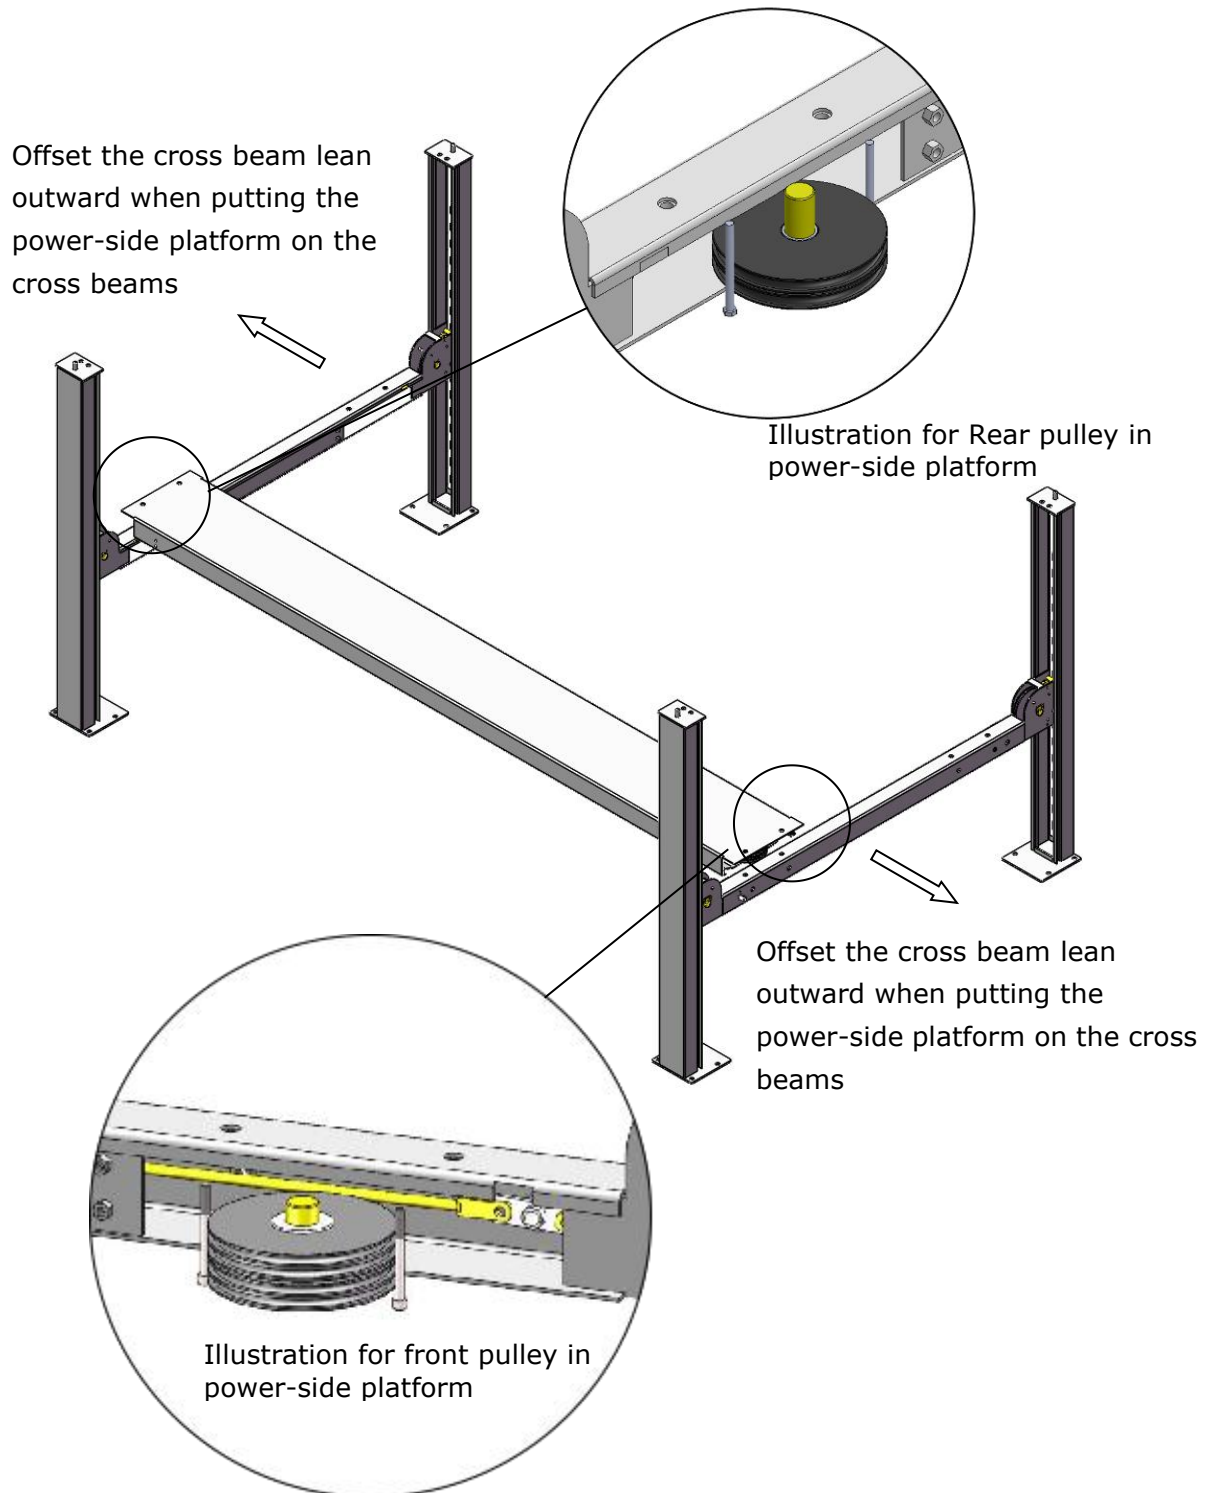

Fig. 17
1. Install the power side platform on the cross beams by a fork lift or manual, offset the cross beams to the outside till the pulleys of both platforms can rest into the cross beams' slots (See Fig.17), Install the power side platform and screw up the bolts.